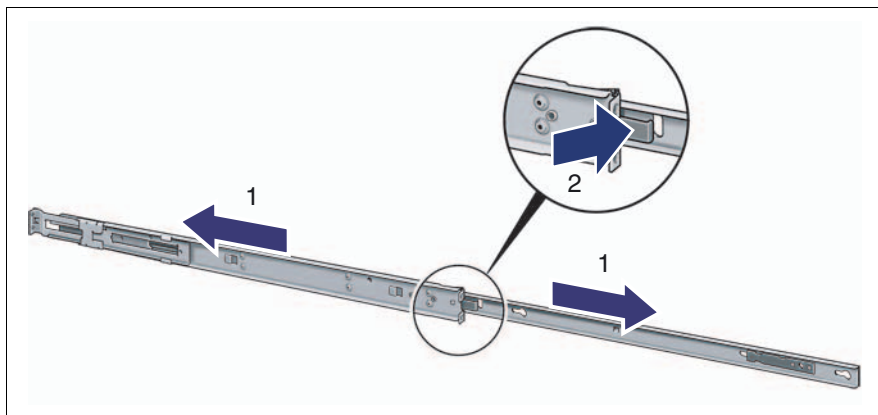

Figure 4: Remove the outer telescopic rail
- ▶ Remove the outer telescopic rail as described in page 40 \(figure 4\).